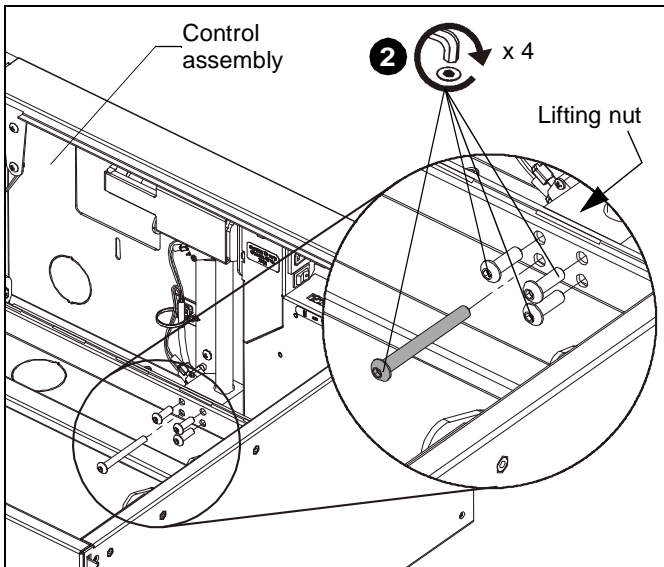

Figure 10
2. Replace four screws into lifting nut near control assembly. (See Figure 10)
NOTE: Ensure that longest screw is replaced in the proper location. (See Figure 10)